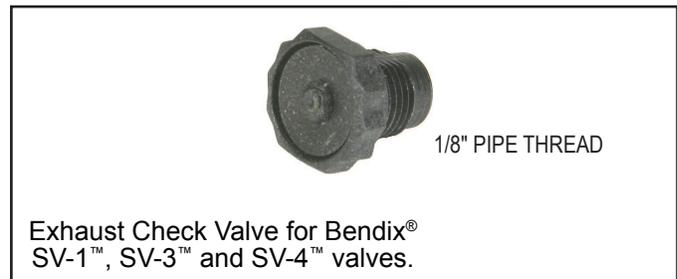

FIGURE 3 - EXHAUST CHECK VALVE
4. Pay particular attention to the exhaust check valve in the exhaust port if so equipped (see Figure 3). Make certain it is free of contamination and the rubber valve is free to function. Replace this item as necessary.